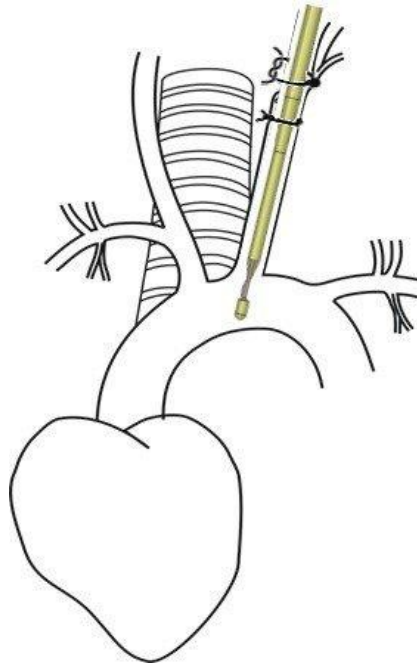

Figure 5: Sensor placement of 1 mm in the aortic arch
17) Optimal placement should be with 1 mm of the sensor positioned in the aortic arch. (See Figure 5)